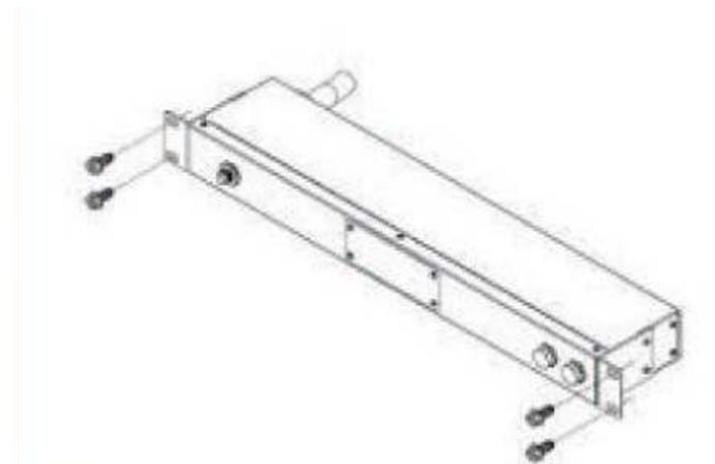

FIGURE 1
1. Attach the two (2) XPDU horizontal mounting brackets (included) on each end of the XPDU using four (4) retaining screws (included) see Figure 1.